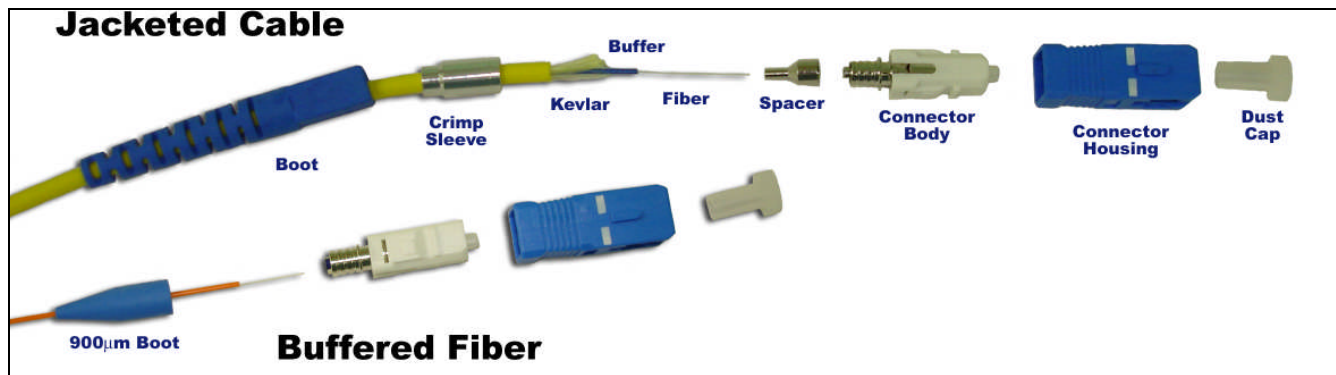

Fig 1
Fig. 1 shows the structure of the LightCon™ SC Connector, consisting of Connector Housing, Connector Body, Crimp Sleeve, Boots, Dust Cap, and Spacer. Connectors for different cables/fibers may vary slightly by boots or crimp sleeves. Follow the steps below to make cable assembly.
Step 1 Slide the Boot and Crimp Sleeve onto the Cable as shown in Figure 1.